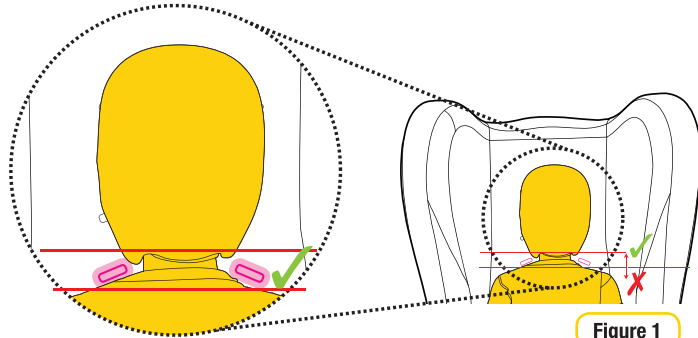

Figure 1
With reference to Figure 1 you should visually see the slots at or above the child's shoulder.
- Loosen harness to allow spreader plate to rise from under the restraint. Turn the restraint so that the back of the restraint is facing you (refer Figure 1, page 42).